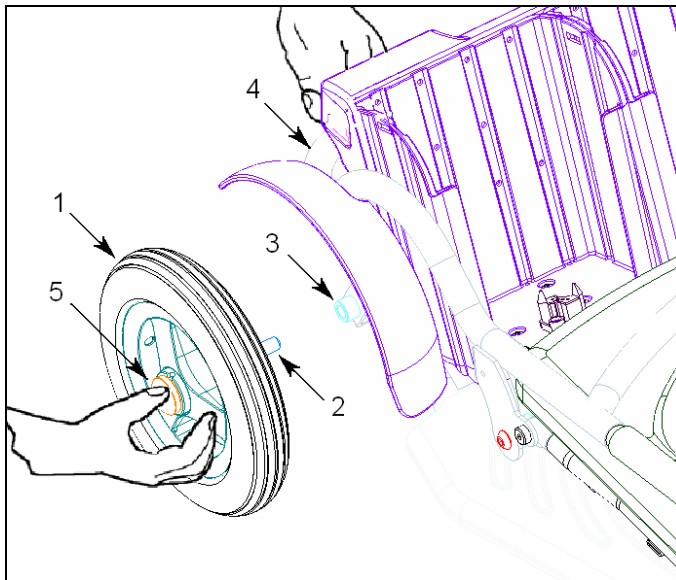

figure 17
- In case of need to remove the wheels from the frame to earn some more volume reduction of the Caddy , do is in opposite order than installing them . See **figure 17** and §2.2 .